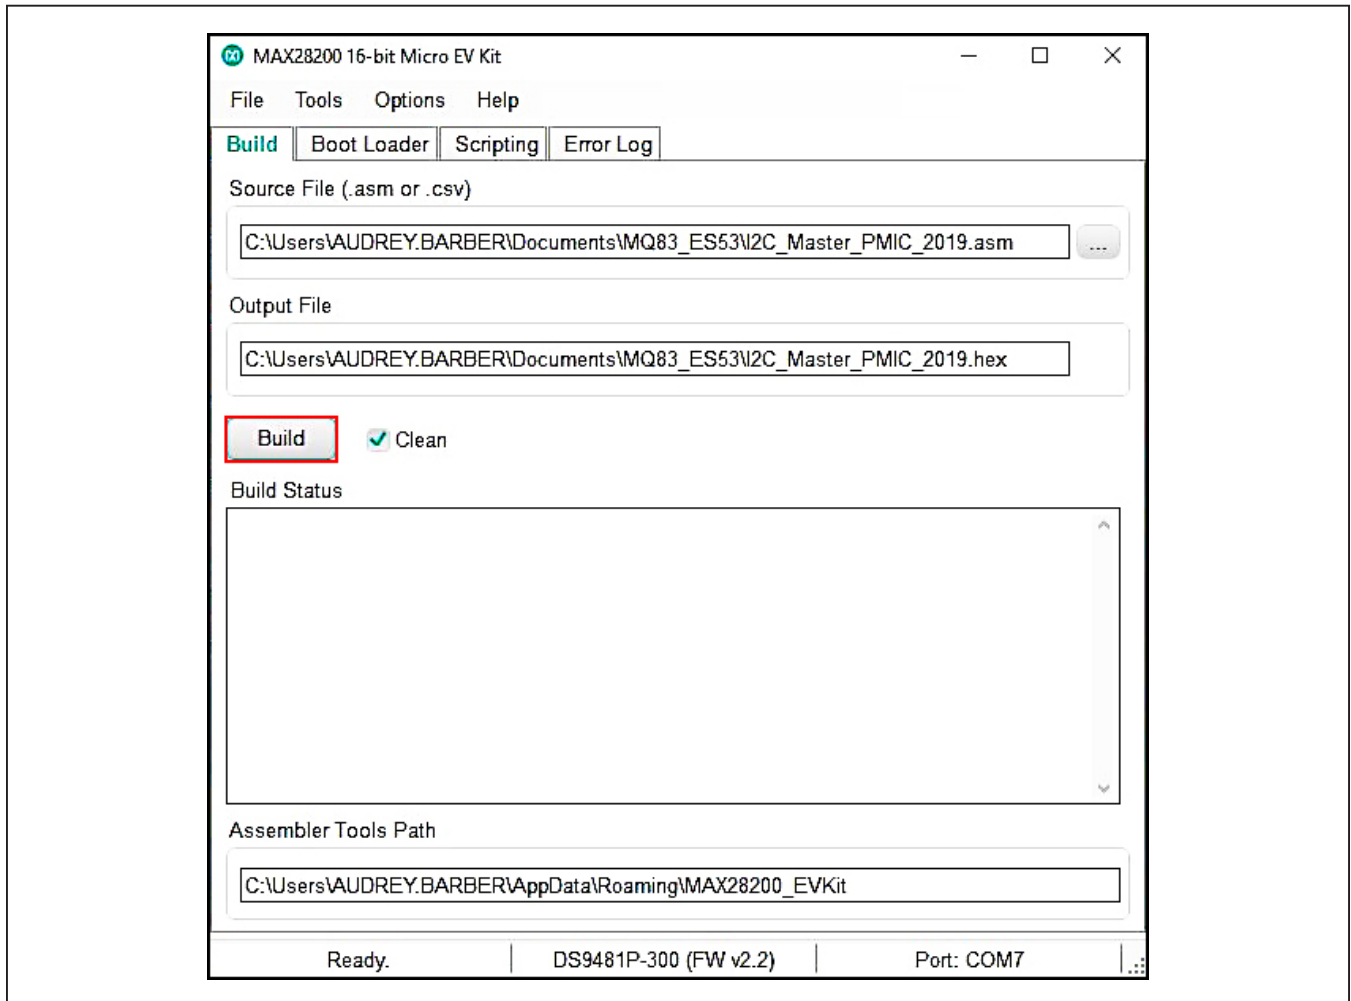

Figure 13. Build the hex file from the original assembly file.
3) Once the file is selected, click the **Build** button to build the assembly file (Figure 13).